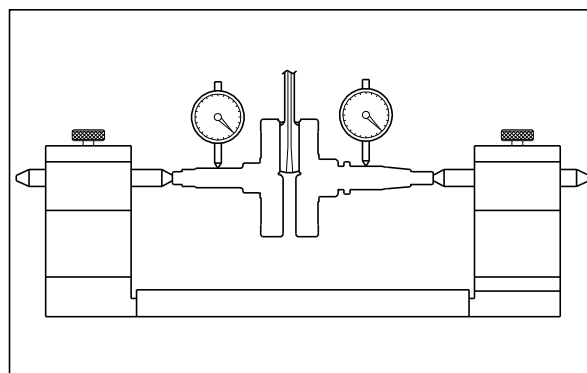

Fig. 3.181
- Mount the dial indicator at positions shown to read the runout. Runout should be within the service limit. (Fig. 3.181)